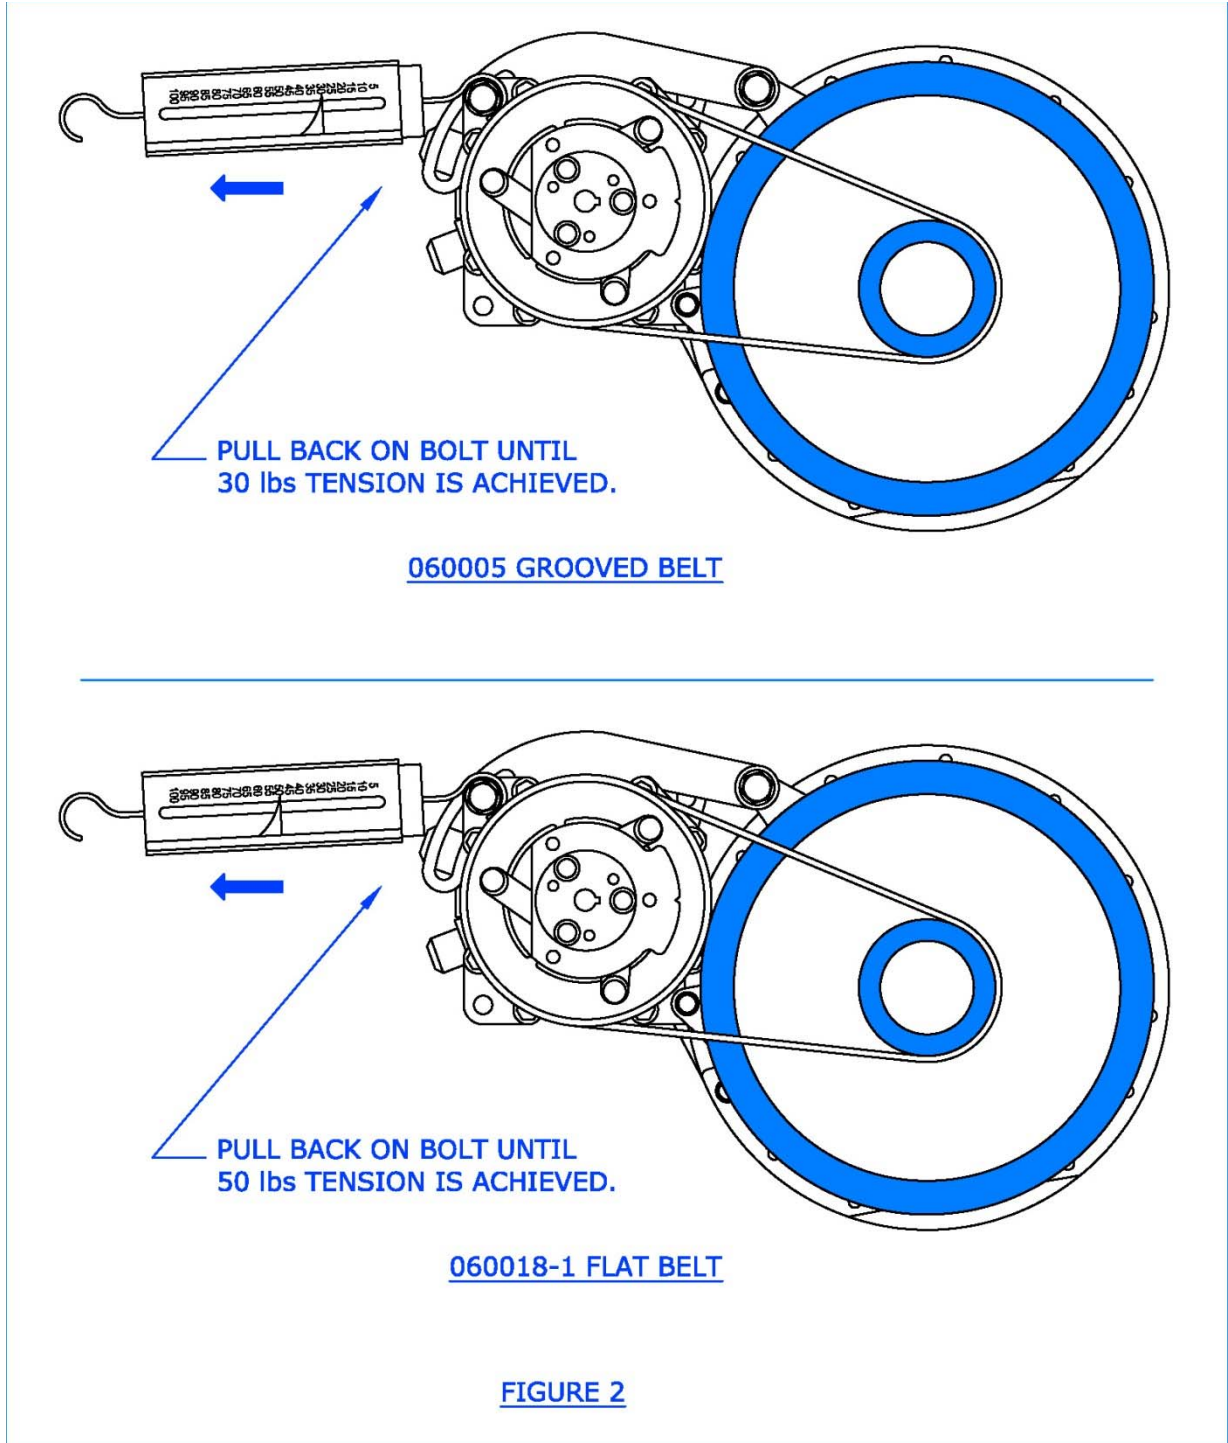

**FIGURE 1**
8.7	Secure 1 belt to the outside of the drive shaft cover for a spare and slip one through the housing and over the drive pulley.  NOTE: THE CURRENT BELT P/N 060018-1 HAS A SPECIFIC DIRECTION OF ROTATION. (See figure 1, page 3)  NOTE: THE CURRENT BELT P/N 060005 HAS NO SPECIFIC DIRECTION OF ROTATION.